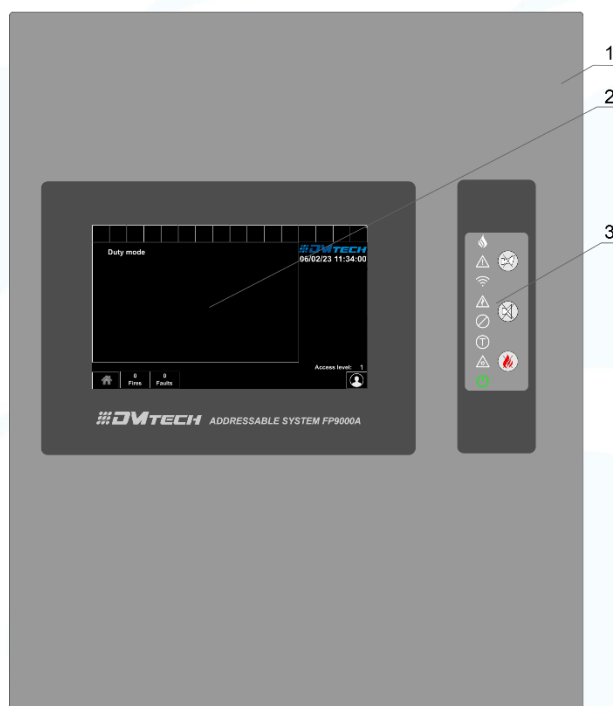

Fig.1
**3. Characteristics** - in fig. 1 presents the front panel of the FP9000A-R addressable "Repeater" - control and indication panel. Position 1 – front cover; 2 – 7" Touch Display 800x600; 3 – Panel with indication and additional buttons;